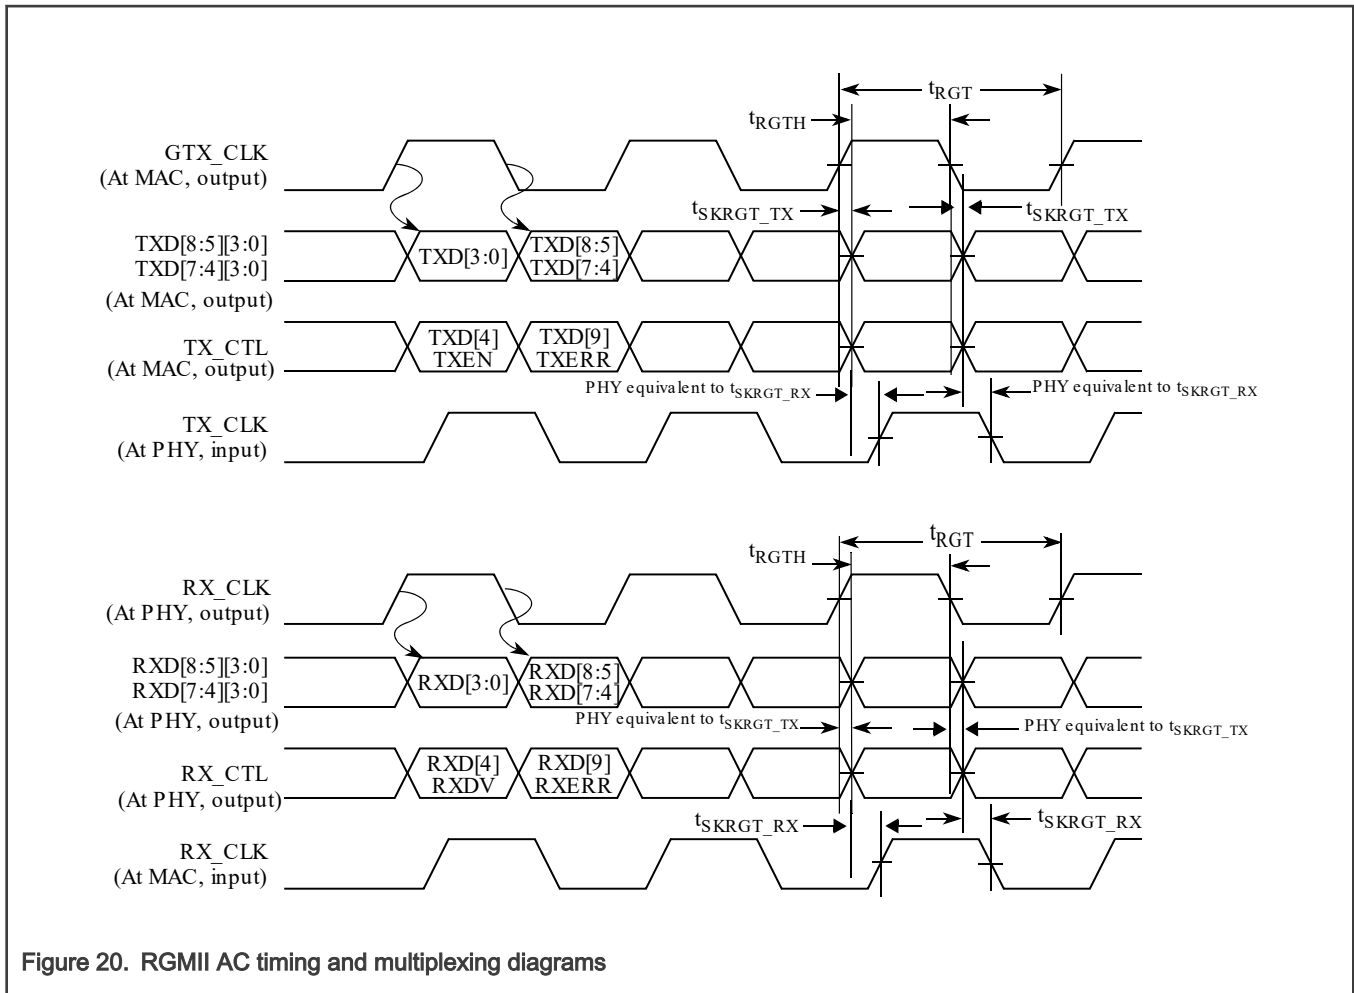

Figure 20. RGMII AC timing and multiplexing diagrams
7. In general, the clock reference symbol representation for this section is based on the symbols RGT to represent RGMII timing. Note that the notation for rise (R) and fall (F) times follows the clock symbol that is being represented. For symbols representing skews, the subscript is skew (SK) followed by the clock that is being skewed (RGT).
8. See Figure 20.